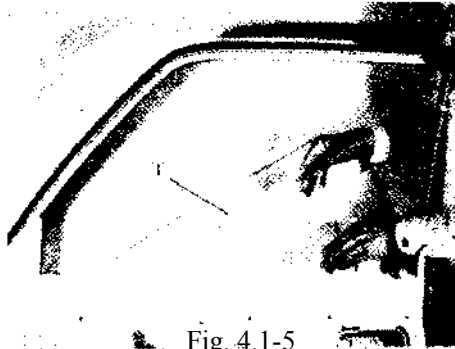

Fig. 4.1-5
- 8) Pull up the rear side of front door glass, take out front door glass with front door glass bearer, and see fig. 4.1-5.
- 4) Slide door lock connection rod mechanism assembly and lock body assembly. After disconnect the dragbar sheaths of each connection dragbar, disassemble lock connection rod mechanism assembly and lock body assembly, see Fig. 4.1-5.